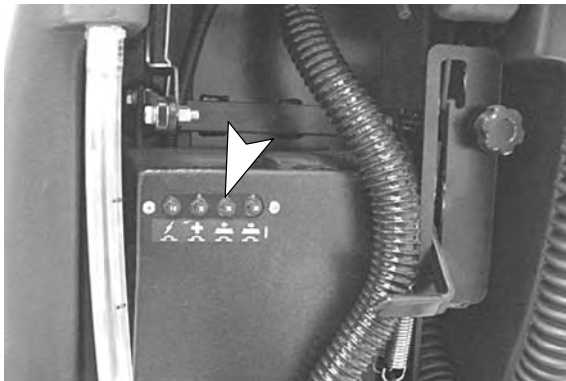

FIG. 19
The machine is equipped with (4) circuit breakers to protect motors from damage. If circuit breakers trip, they cannot be reset immediately. Determine reason why breaker tripped, allow motor to cool and then reset. Brush motor circuit breakers will trip due to excessive overload on pad. Clean or change pad if breaker should trip. Circuit breaker buttons are located at rear of machine as shown (Figure 19).
- 35A Brush Motor Circuit Breaker (2)